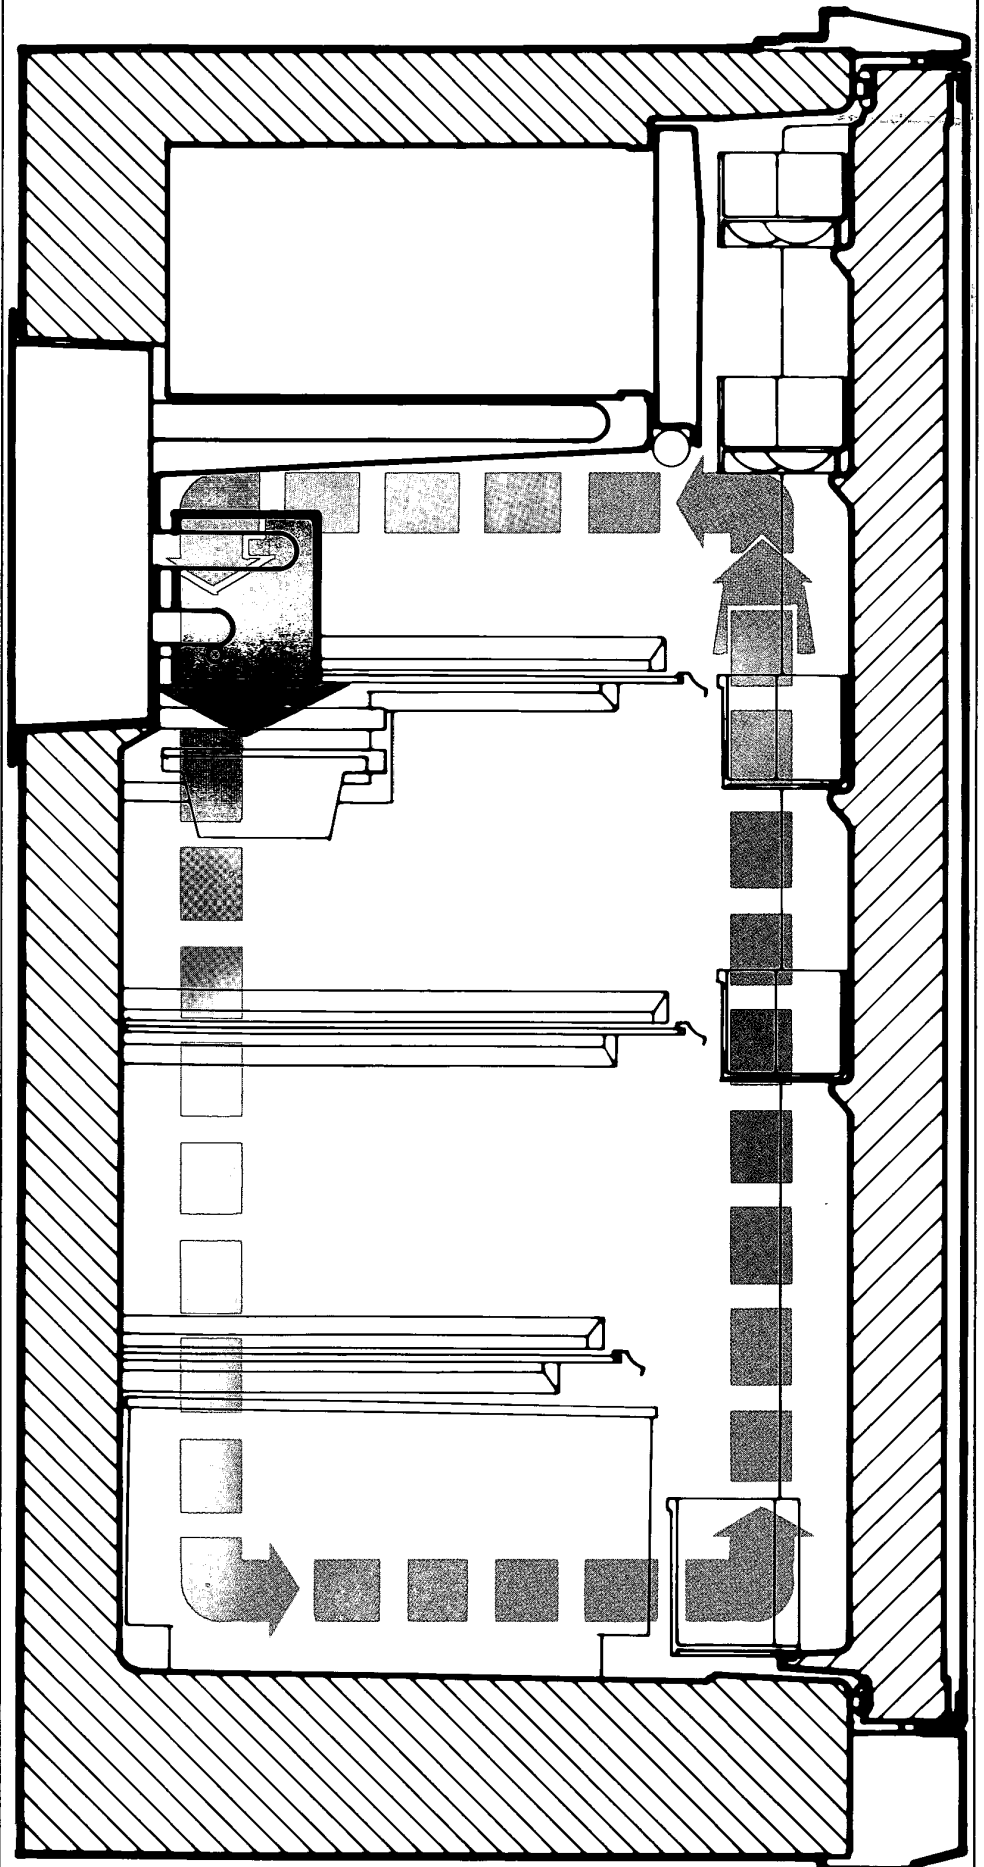

FIGURE 2 —
**Figure 2** shows the cold heavier air around the secondary evaporator coil (**Figure 1**) falling, picking up heat from stored foods, then being warmed and rising again to be re-cooled.